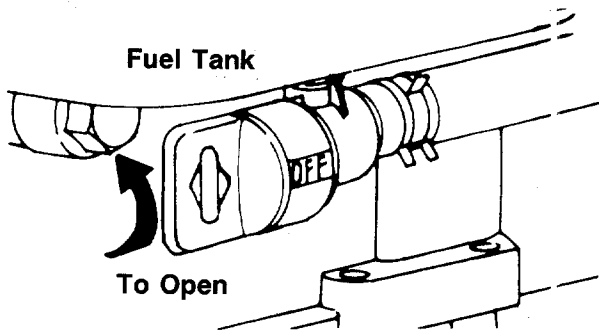

FIGURE 11.
2. Open fuel shut-off valve, located beneath the fuel tank. See figure 11.